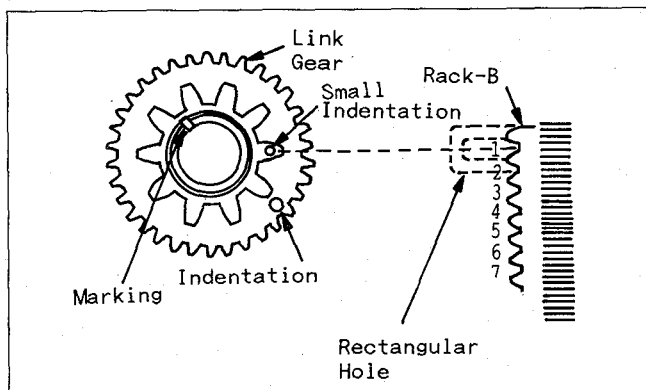

Fig. DA5
4. Slide the Cassette Holder just a little so that the first groove of the Rack -B (located on the bottom side of Cassette Up Unit) comes to the center of the rectangular hole as shown in Fig. DA5.
5. Slowly install the Cassette Up Unit onto the chassis so that the Small Indentation on the Link Gear fits into the first groove of the Rack -B as shown in Fig. DA5. If it does not fit, slide the Cassette Holder a little bit to mesh the gear teeth.